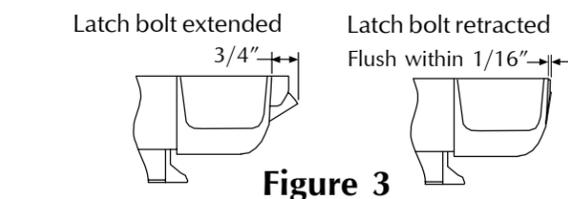

Figure 3
2. Depress pushbar and make sure latch bolts retract and extends fully (see Figure 3).
4. Check latch bolt(s) for full retraction (must clear strike (see Figure 3).
5. Release solenoid and check latch bolt extension (see Figure 3).